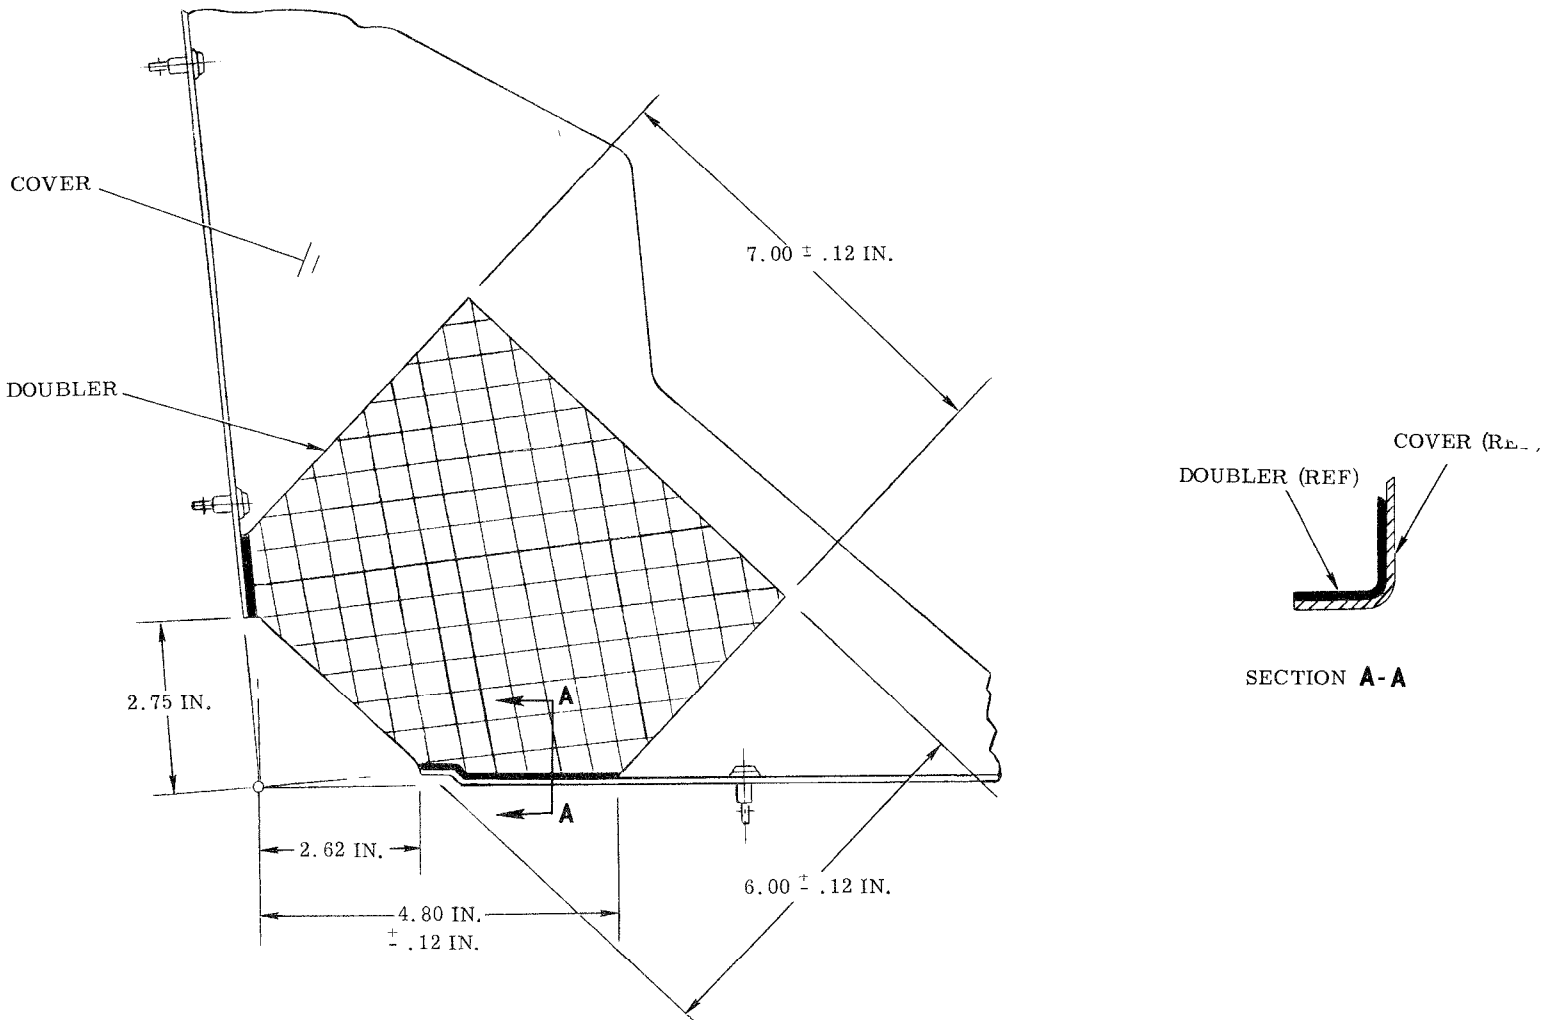

FIGURE 1. FIBREGLASS DOUBLER-COLLECTIVE CONTROL STICK COVER ASSEMBLY
- b. Using solvent and clean cloth, remove dirt and other foreign material from faying surface of cover. (See Figure 1)
- f. Position fibreglass layer on outer right hand side of cover; press firmly into place; continue adding fibreglass layers and resin until four-ply doubler is fabricated. (See Figure 1)